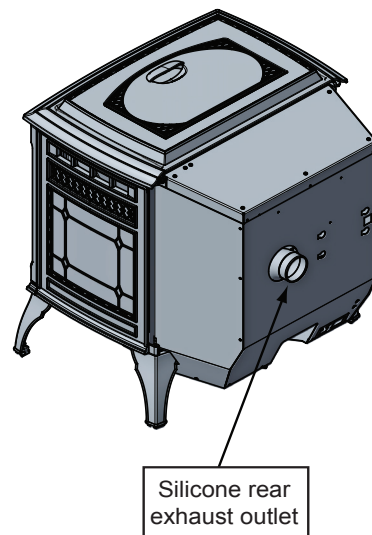

Figure 1
1. Put a 1/4 inch bead of silicone on the outer edge of the appliance exhaust outlet (**Figure 1**).